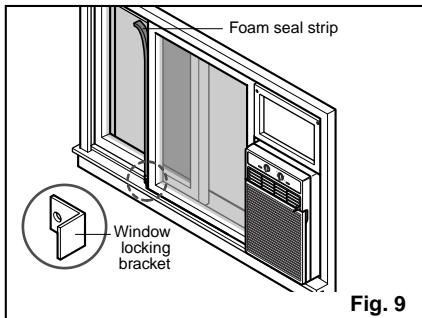

Fig. 9
14. If this is a casement window installation, proceed to Casement Window Installation. If not, stuff the Foam Seal Strip between the vertical sash and the window glass. (Fig. 9)
15. Attach the L Bracket with a Type B screw. (Fig. 9)